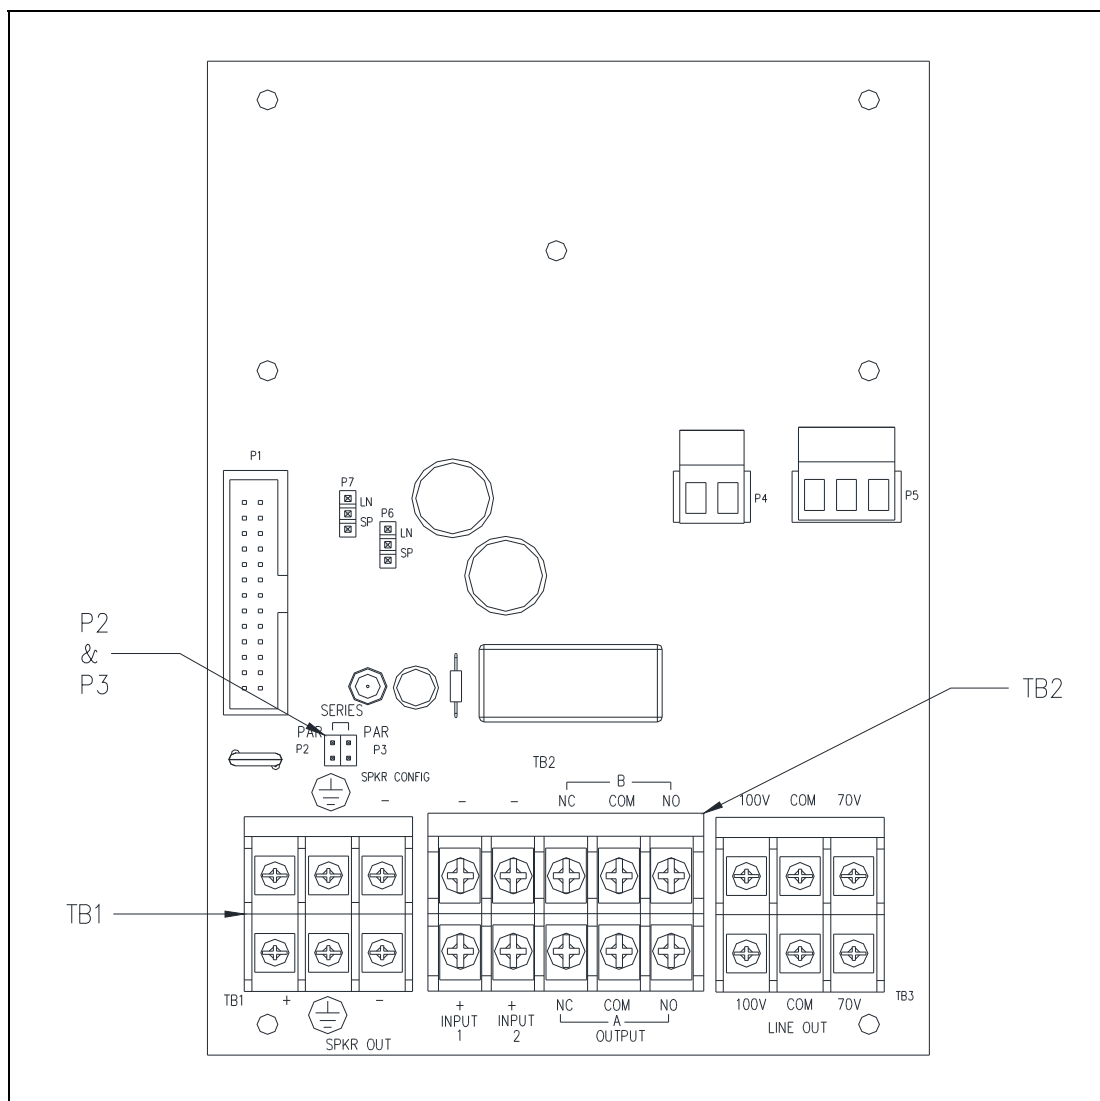
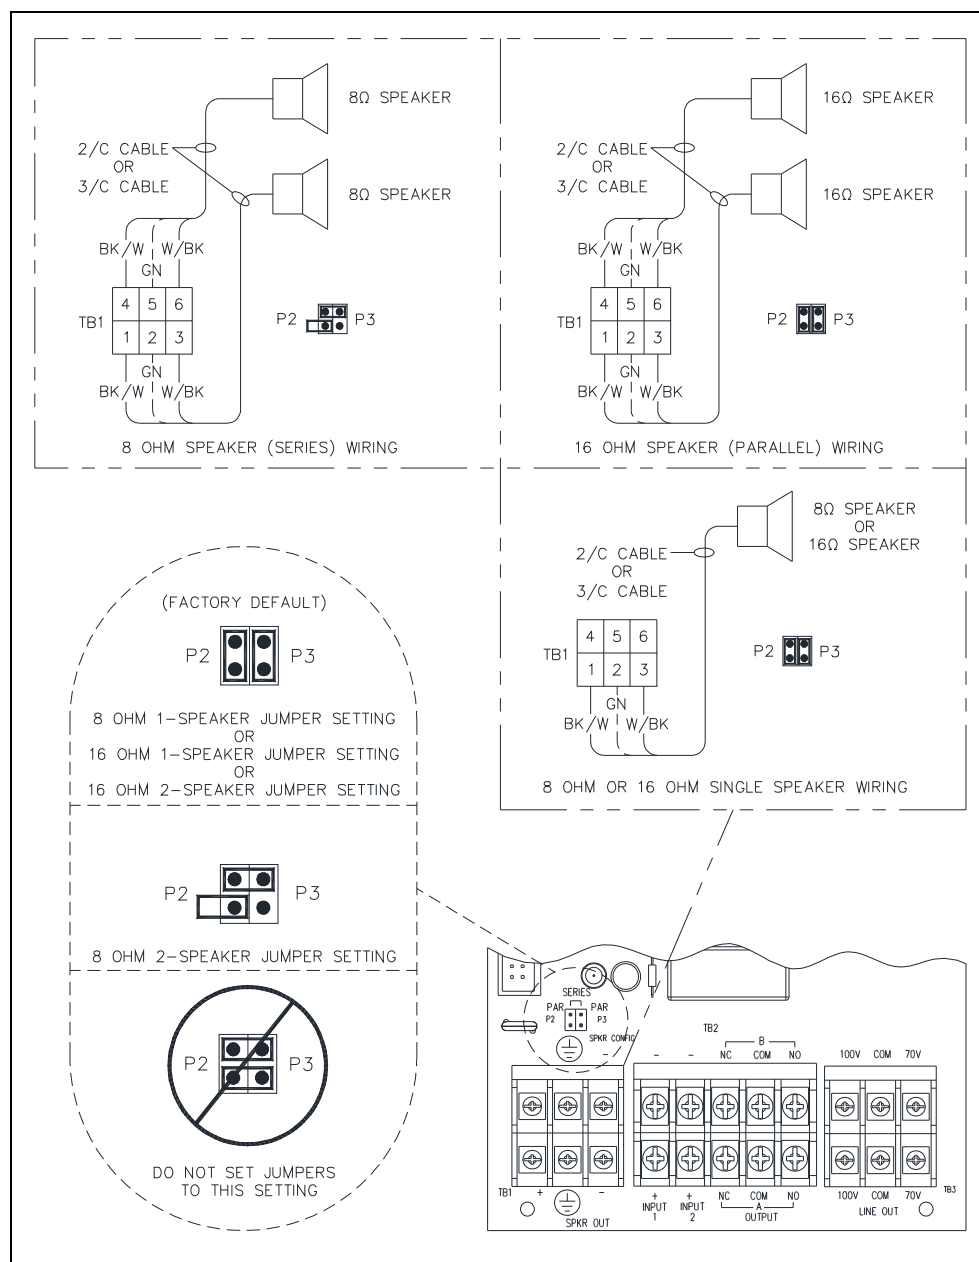
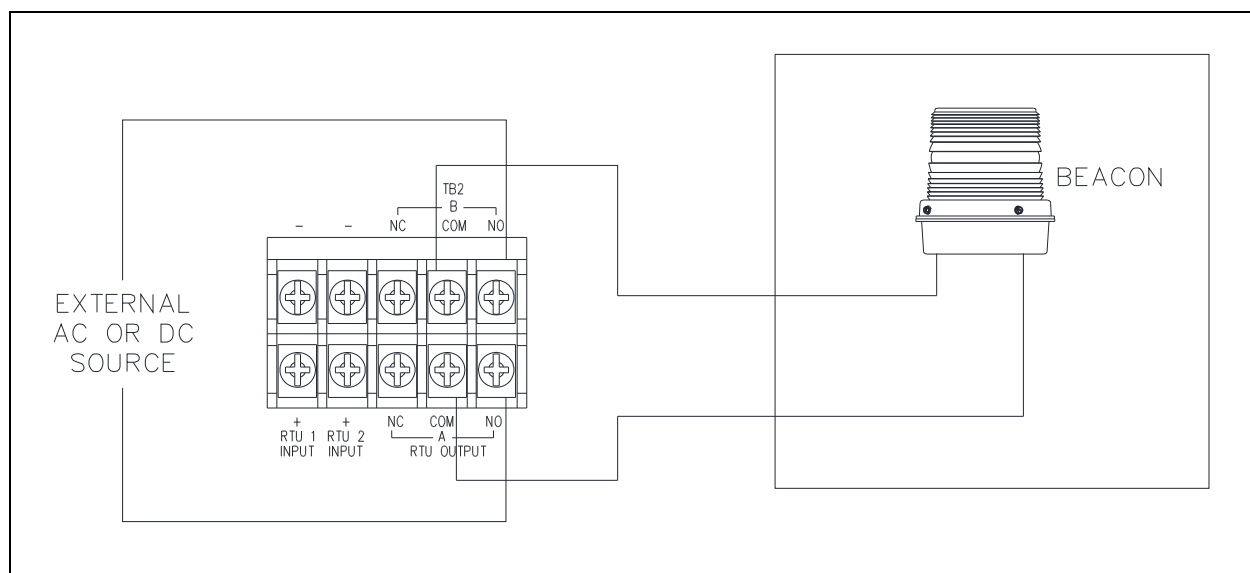

Figure 4. SP2 Termination PCBA (POE Stations)
Figure 5. 8/16-ohm Speaker Impedance Configuration
Figure 6. RTU Output Wiring—TB2
5. Configure the speaker jumpers; P2 and P3, for the appropriate impedance for use with 8-ohm or 16-ohm speakers (see Figure 4 and Figure 5).
The termination PCBA contains two auxiliary RTU inputs. Terminate the inputs at terminal block TB2 (see Figure 4).
A single output relay provides two form C contacts to switch external power to a beacon (see Figure 6). Terminate the output at terminal block TB2 (see Figure 4).